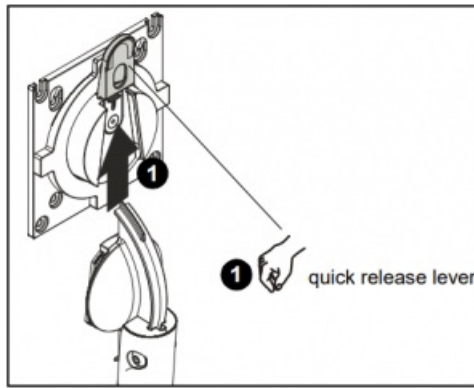

Figure 8
1. Remove quick release faceplate from mount by pulling quick release lever and sliding faceplate off mount. (See Figure 8)